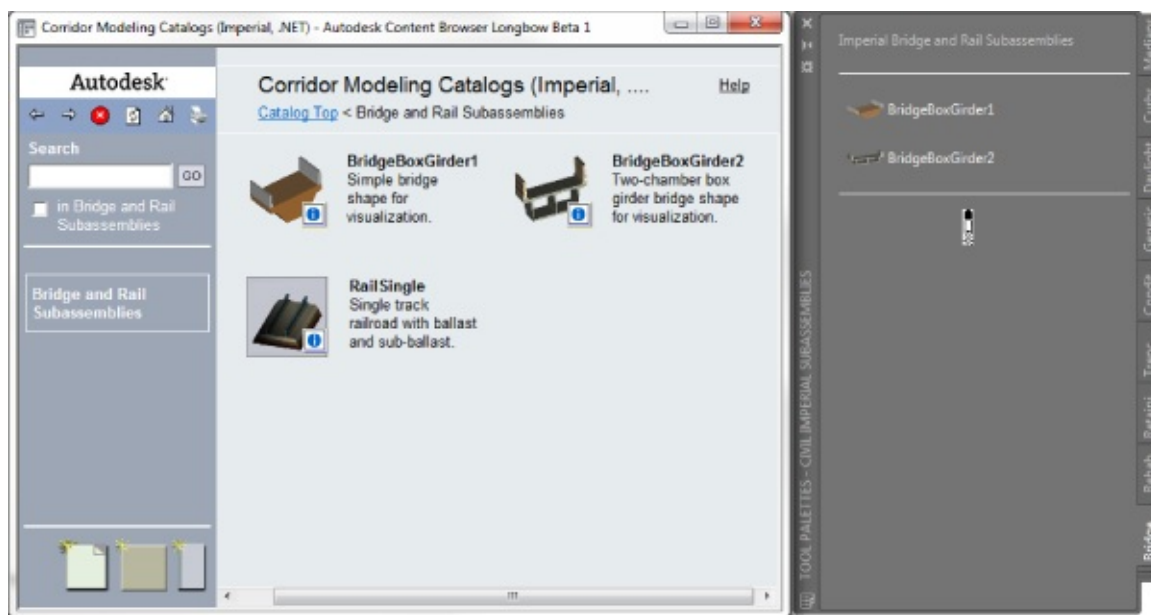

Figure 8.3 Using the i-drop to add the RailSingle subassembly to a tool palette
2. Release the button, and your subassembly should appear on the tool palette (see Figure 8.3).